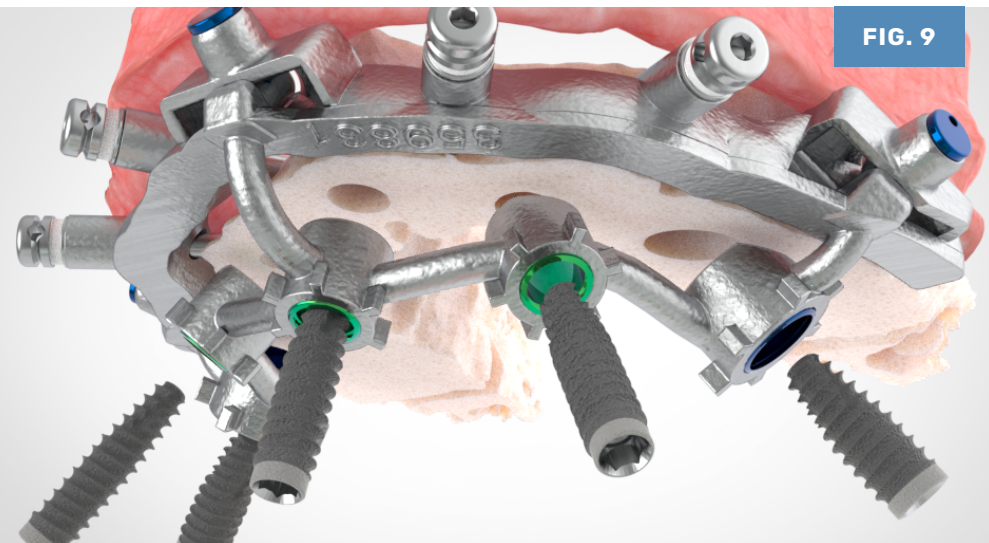

FIG. 9
3. Place implants through the guide if the surgical kit allows. **(FIG. 9)** Otherwise, remove the guide and place. The Osteotomy Guide may be temporarily removed to relieve torqueing pressure on the handpiece.